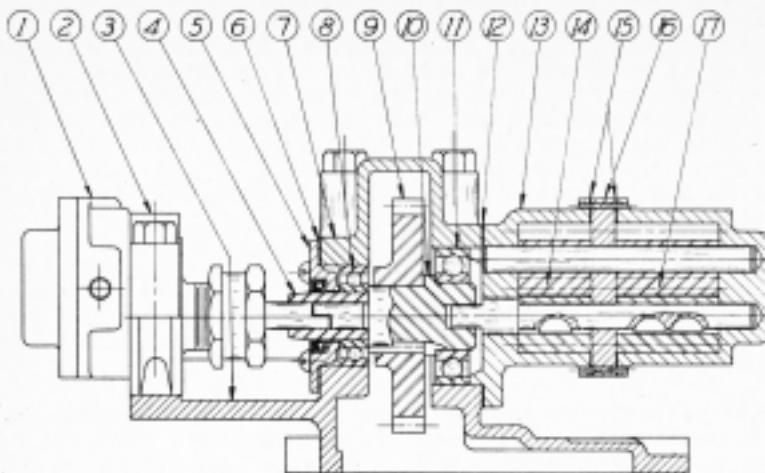

FIG. T-1
The rotary pump group, illustrated in Fig. T-1, is built into one of the center frame doors (3). It includes the lubricating oil pressure and sump pumps (14) and (17) and the fuel transfer pump (1), together with drive shaft (10) and gear (9), which meshes with a driving gear on the cam shaft. The door is positioned and doweled on the centerframe for .004" gear backlash. The door gasket should be $1/32$ " thick to maintain this adjustment.
oil seal, assemble in the cover as shown in Fig. T-1.